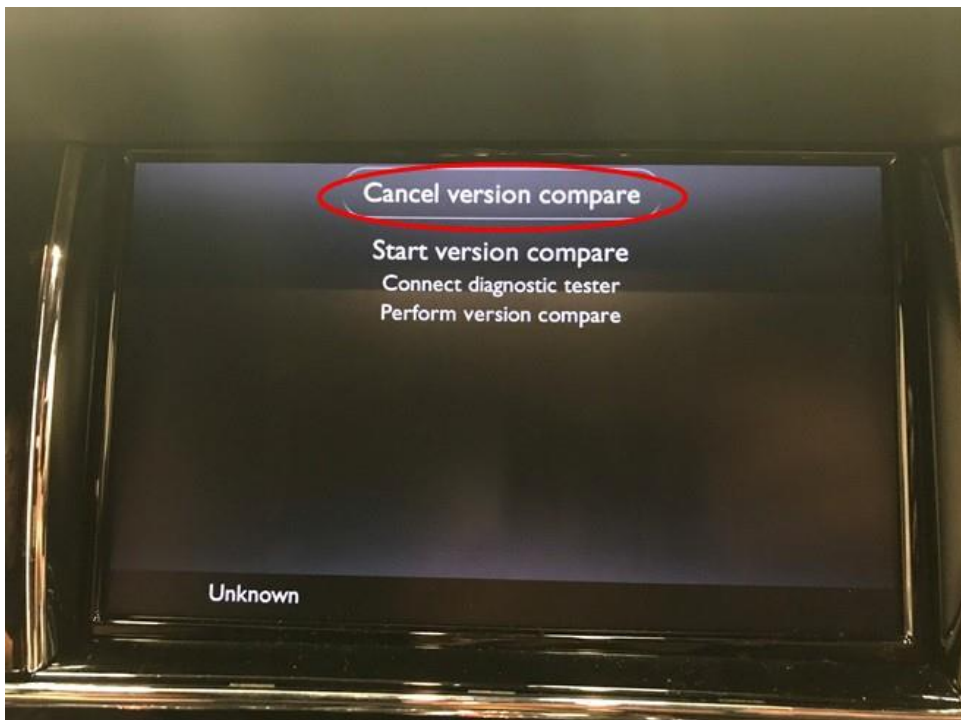

Figure 12
11. On the following screen press Cancel version compare (see Figure 12) the system will reboot.